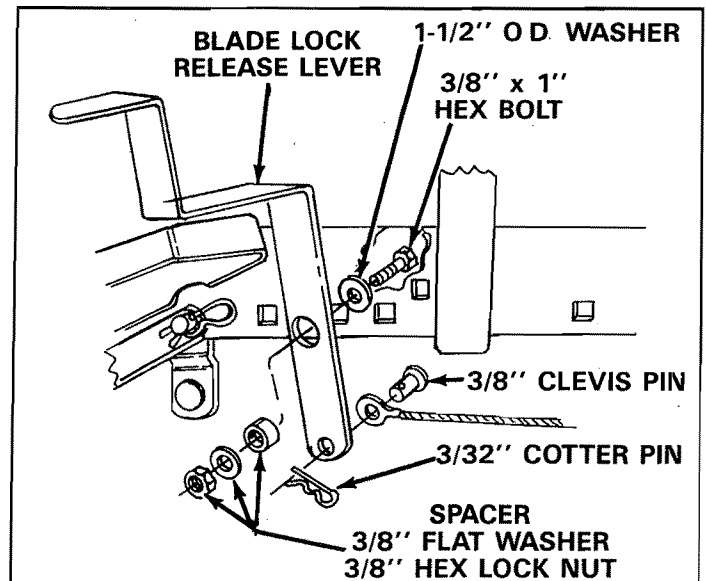

FIGURE 20
11. Move attachment lift lever all the way forward and lock in position. See figure 20, page 9.
22. Assemble blade lock release lever to right side of tractor frame using one 1-1/2" O.D. washer, one 3/8" x 1" hex bolt, spacer, 3/8" flat washer and secure tightly with one 3/8" hex lock nut. See figure 20.
23. Secure one end of blade lock release cable to small hole in blade lock release lever using one 3/8" x 3/4" clevis pin and one 3/32" hairpin cotter. See figure 20.